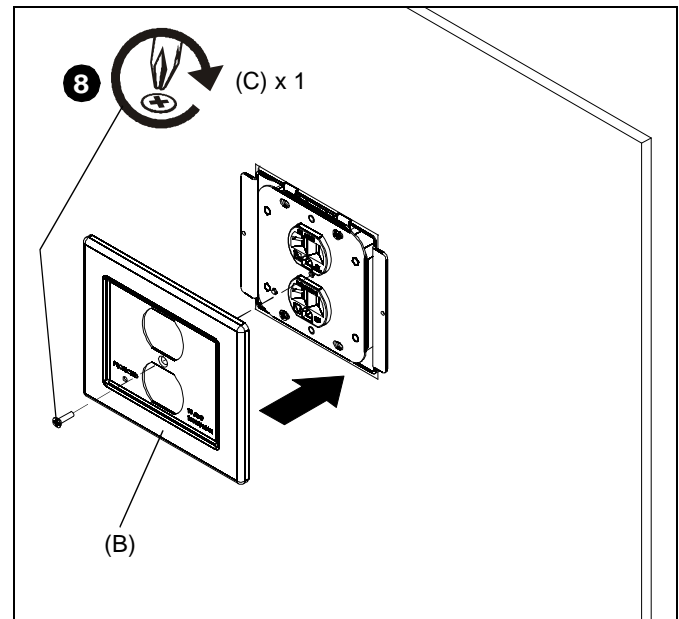

Figure 7
8. Install faceplate (B) onto PX2W using one 6-32 x 1/2" Phillips flat head screw (C). (See Figure 7)